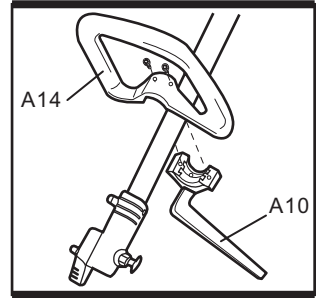

Fig. 1
3). Place the handle onto the shaft from the top and secure it with the longer screws. Tighten them with the hex key (D4). (See Fig. 1)